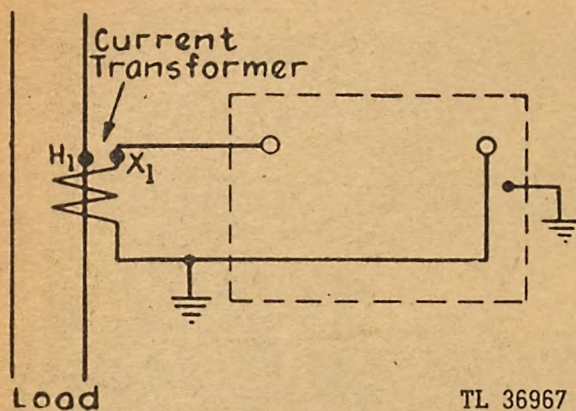
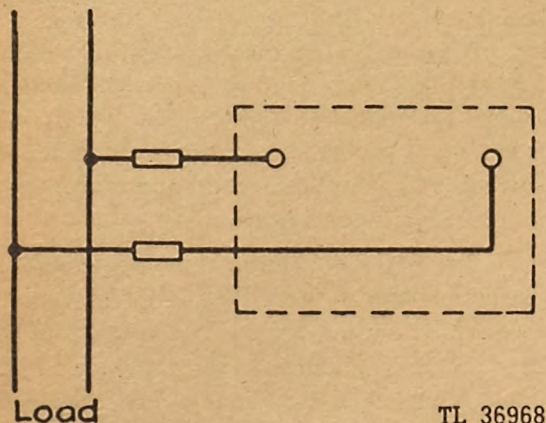

Fig. 315. A-C Ammeter with Current Transformer
Fig. 316. A-C Voltmeter without Transformer
*a. Ammeter and Voltmeter.* The ammeter and voltmeter are General Electric Type AD-6 and are made self contained up to and including 600 amperes. The rating of the ammeter is as follows: 5 amperes on the instrument indicates 150 amperes on the scale. Current transformers are provided in the load leads. Figure 315 shows the schematic arrangement of the ammeter. Figure 316 shows a schematic hookup of the voltmeter.